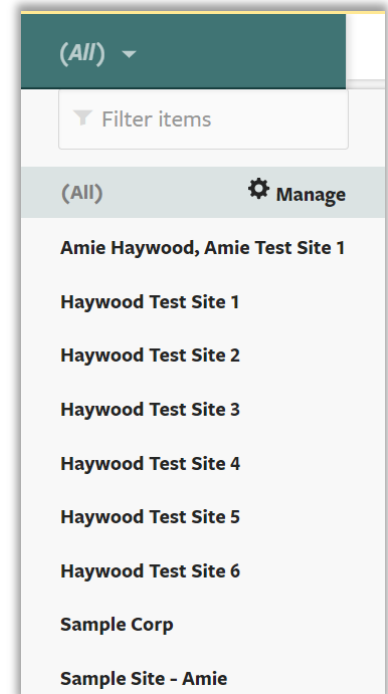

Figure 6-2 – (All) options
1. Click the down arrow to see a list of your sites and click on the site you want to work on or view. See Figure 6-2.